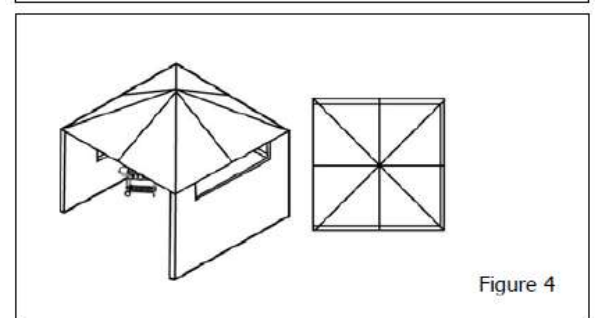

Figure 4
- One wall that is equivalent to at least 25% of the total wall area is completely open. (Figure 4)